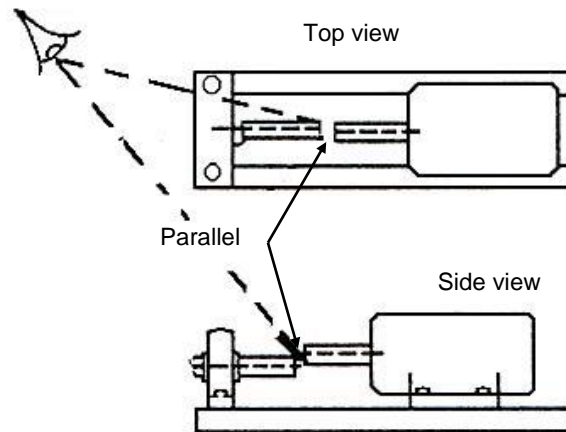

FIG 23.
- A. Parallel misalignment (viewed from the side). (Fig 23)